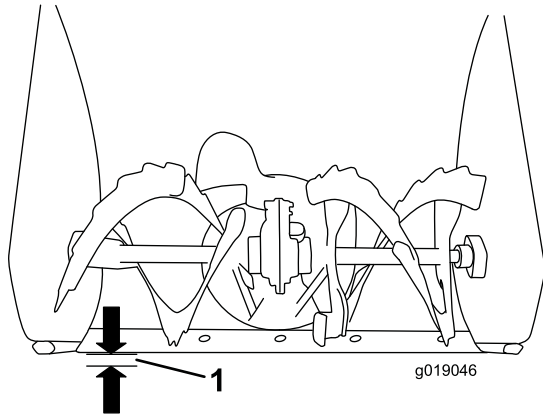

Figure 34
2. Loosen the nuts that secure both skids to the auger sides until the skids slide up and down easily (Figure 34).